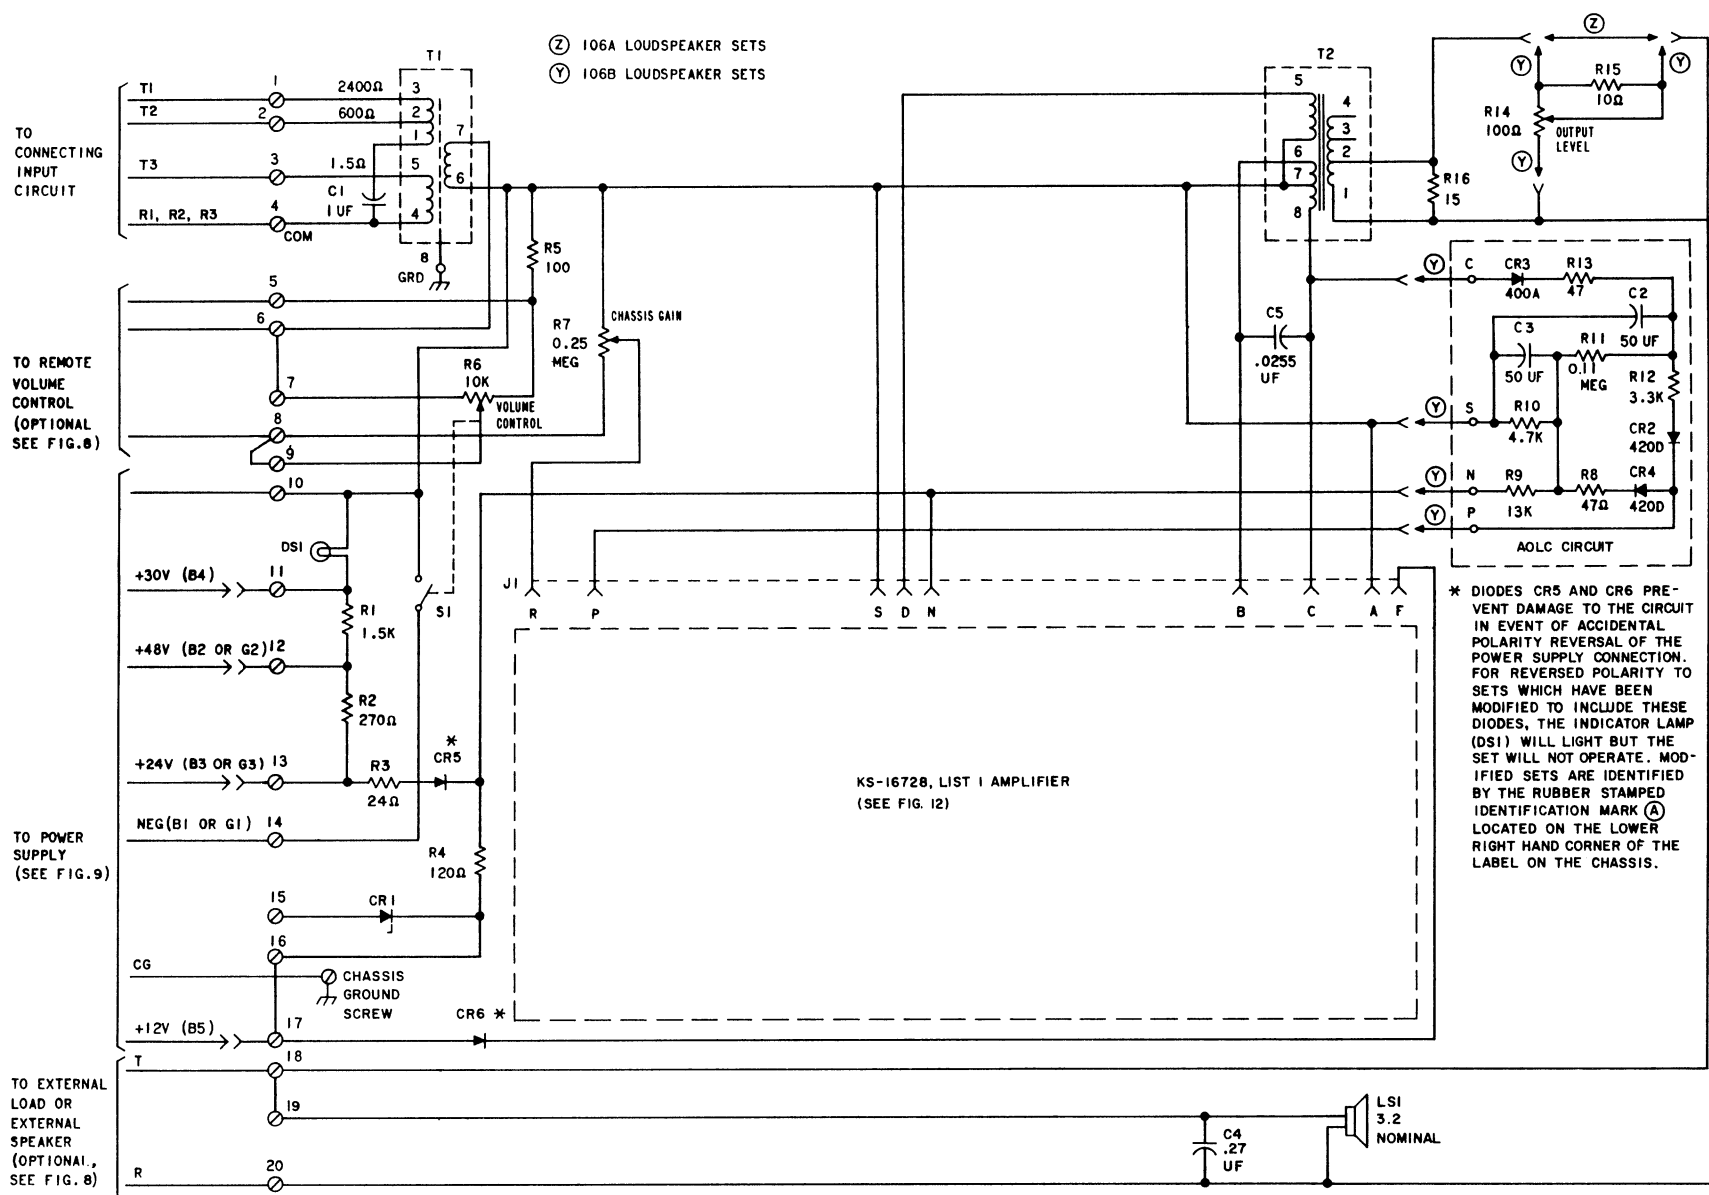

Fig. 10—Schematic—106A (MD) and B (MD) Loudspeaker Sets
4.01 Circuit schematics are provided in Fig. 10, 11, 12, 13, 14.
- (d) **Front Volume Control Arranged to Cut Off All Audio at Minimum Setting (Option N)—106A and B (MD) D and E:** Enable cutoff option by strapping terminals 5 and 10 together (Fig. 10 and 13).
- (e) **Front Volume Control Disabled (Option M, On-Off Switch Normal)—106A and B (MD) D and E:** To disable volume control, remove strap between terminals 8 and 9. Strap together terminals 7 and 8 (Fig. 10 and 13).
(h) **On-Off Switch Disabled (Option S)—All 106-Type Sets:** All sets are factory-wired with the on-off switch connected for operation (option T). To remove switch from circuit, disconnect negative or common lead from terminal 14 and connect to terminal 10 (option S), (Fig. 10, 11, 13, and 14).
WHEN REPLACING A SERIES 4 AMPLIFIER WITH EITHER A SERIES 5 OR A SERIES 6, MAKE THE FOLLOWING CHANGES TO THE LOUDSPEAKER SET CIRCUIT (SEE FIG. 10 AND 11):